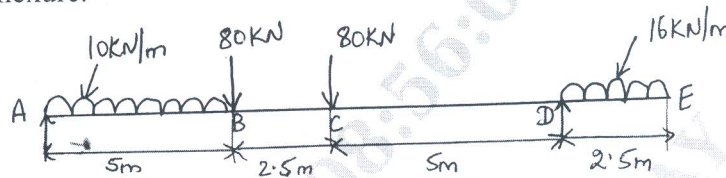

Fig.Q5(b)
b. Draw shear force and bending moment diagrams for the beam shown in Fig.Q5(b). Locate point of contra flexure.